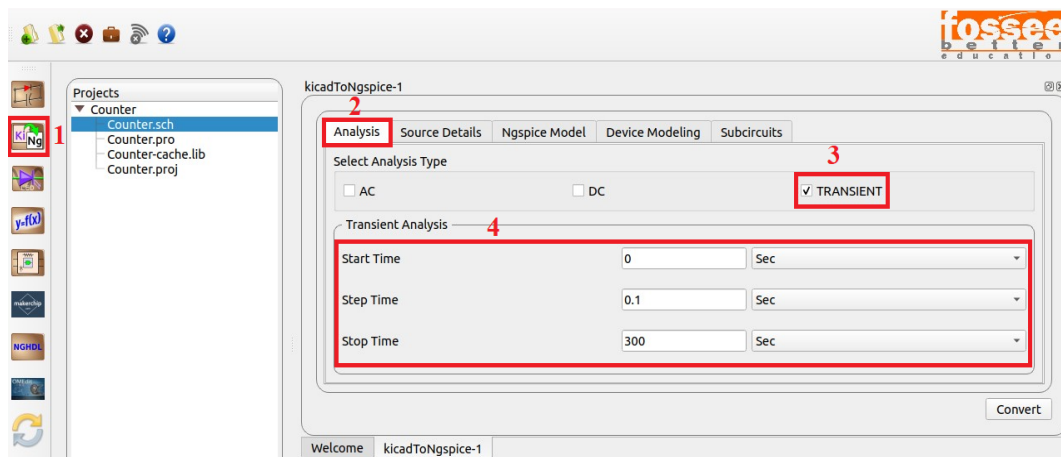

Figure 11.32: KiCad to Ngspice conversion steps
1. After creating the schematic, click on **KiCad to Ngspice Converter** icon and select the type of analysis as transient and set the start, step and stop time as shown in Fig. 11.32